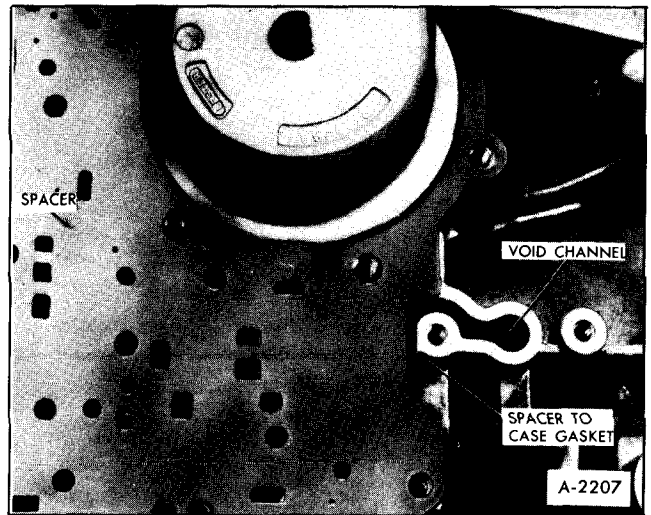

Figure 90—Valve Body Spacer-to-Case Gasket
**NOTE:** Valve body spacer to case gasket should extend approximately 1/8 inch beyond the spacer plate, over the void case channel, Figure 90. If service gaskets are being installed, the valve body spacer to case gasket has an extension which will cover the void case channel.